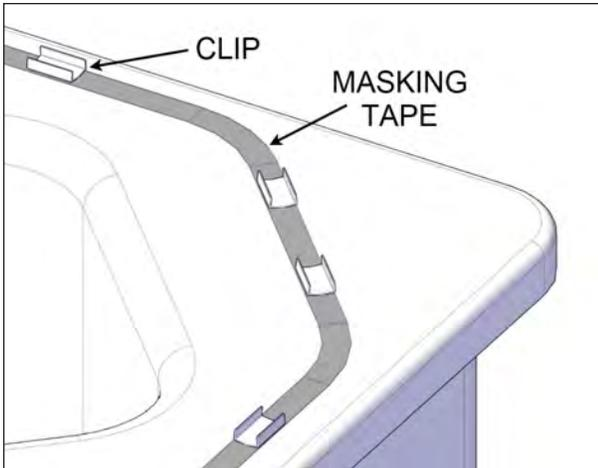
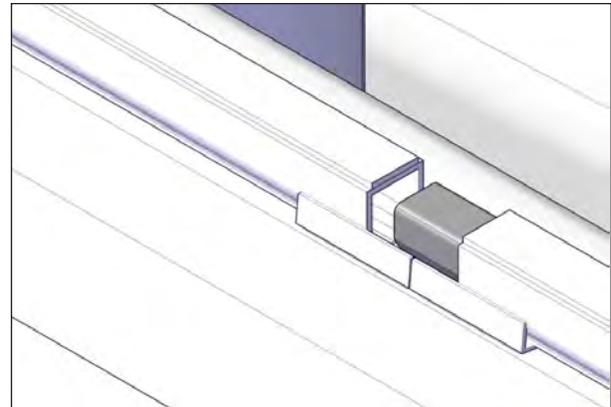
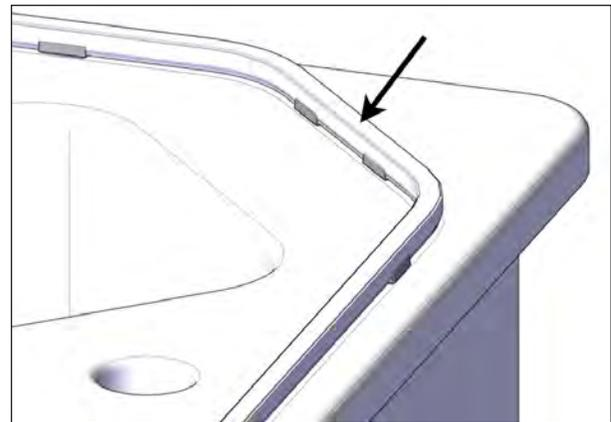

FIGURE 116: MASKING TAPE AND CLIPS
FIGURE 117: SEAL JOINT CONNECTOR
FIGURE 118: SEAL INSTALLATION
4. The number of seal clips is limited. Temporarily install the clips all around the spa to ensure the best distribution (do not stick yet). The minimum turn radius for the seal is 4" (10 cm), see Figure 116. Keep two clips for the seal joint connector as shown in Figure 117. Once the distribution is done, stick the clips in place (on the tape if applied).
5. The seal joint starts on the opposite side from the spa entrance. Install two clips where the seal joint connector will be located, see Figure 117.
6. Start installing the seal joint with the adhesive layer facing up towards the cover, see Figure 117 and Figure 118.
8. Insert the supplied seal connector in both ends of the seal. The use of masking tape to hold the two ends is recommended, see Figure 117.